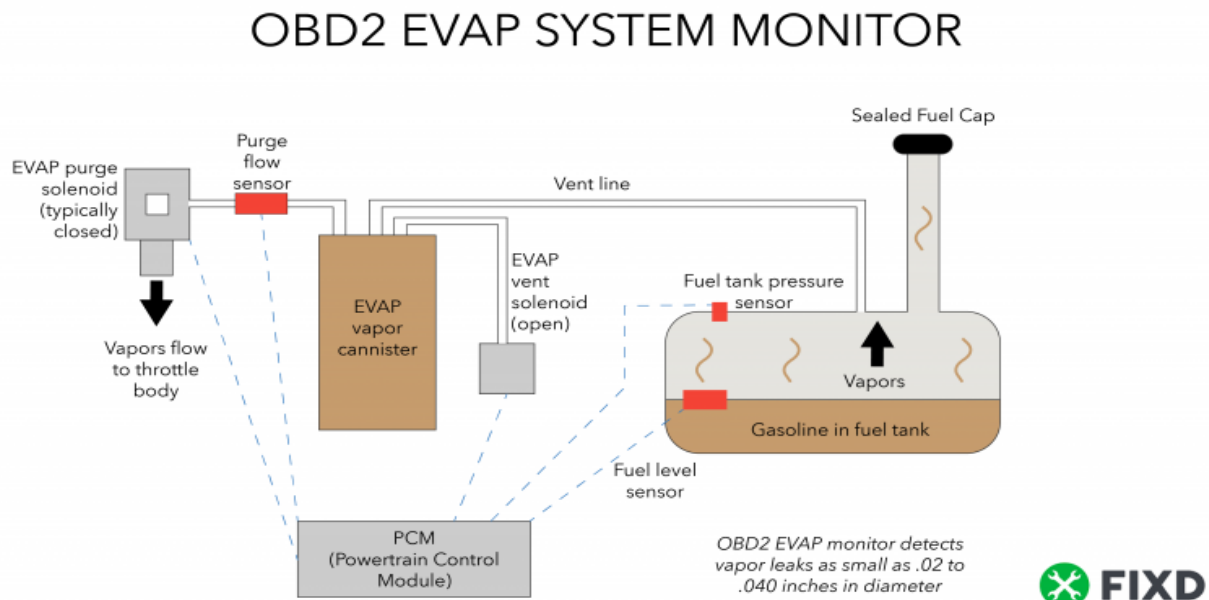

Figure 5 – Engine EVAP, Fixdapp.com (2019)
Evaporative Emission Control (EVAP) – The EVAP system would seal the vehicles fuel system to prevent any fuel vapours from escaping into the atmosphere, this would be bad as the fuel vapours contain a variety of hydrocarbons. The fuel evaporates quickly so if it were able to be released into the atmosphere then there would be pollution from the vehicle constantly, which these vapours would account for up to 20% of the pollution caused by a vehicle. An image of this system is shown by Figure 5 in the bibliography.
- Figure 5 – Engine EVAP system diagram